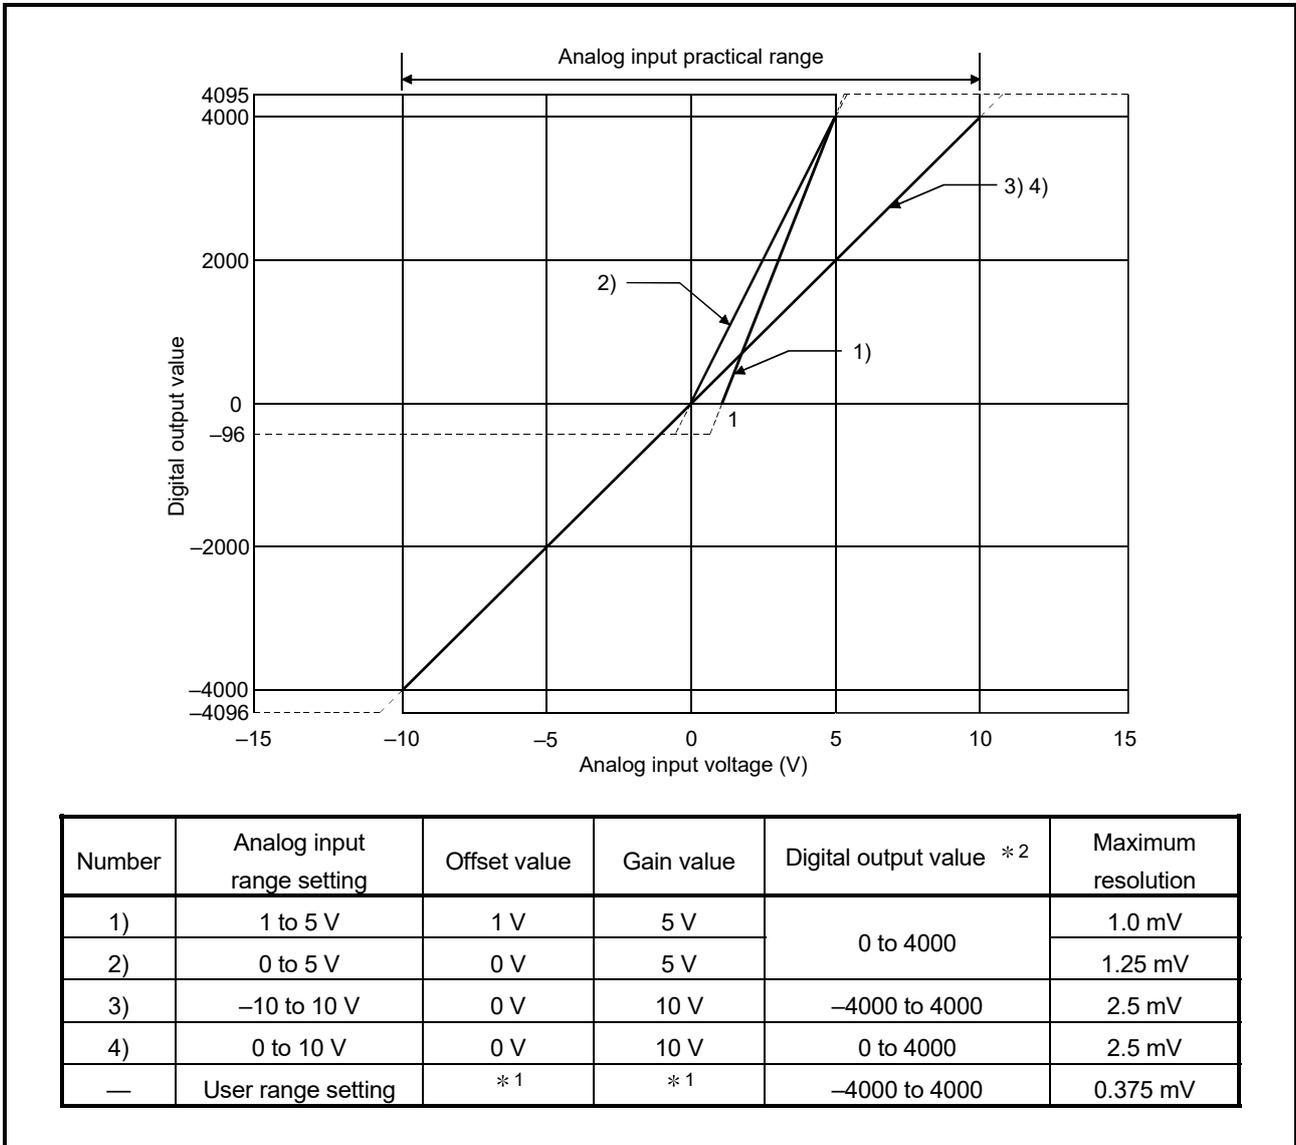

Figure 3.1 Voltage input characteristic in normal resolution mode
Figure 3.1 shows a graph of the voltage input characteristic in normal resolution mode.
<p>(1) Set within the analog input range and digital output range for each input range. If these ranges are exceeded, the maximum resolution and accuracy may not fall within the performance specifications. (Avoid using the dotted line area shown in Figures 3.1 and 3.2.)</p> <p>(2) When inputting an analog voltage out of the range between -15 to 15V, the elements may be damaged.</p> <p>(3) Set the offset/gain values for the user range setting * 1 within a range in which the following conditions are met.</p> <p>(a) Offset value, gain value setting range: -10.0 to 10.0V</p> <p>(b) Choose either one of the following formulas, which corresponds to the resolution mode to be set.</p> <p>1) Normal resolution mode: <math>\{ (\text{Gain value}) - (\text{Offset value}) \} &gt; 1.5V</math></p> <p>2) High resolution mode: <math>\{ (\text{Gain value}) - (\text{Offset value}) \} \geq 4.0V</math></p> <p>(c) <math>\{ (\text{Gain value}) - (\text{Offset value}) \} \leq 10.0V</math></p> <p>(4) When an analog value that exceeds the range for Digital output value * 2 is entered, Digital output value will be fixed at the maximum or minimum value.</p>